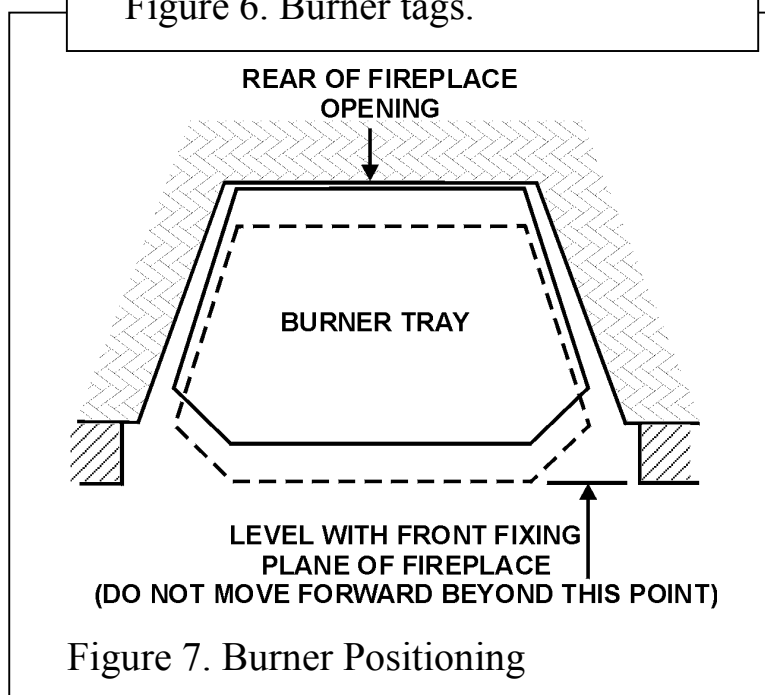

Figure 7. Burner Positioning
- Place the burner unit centrally within the fireplace opening. Position the burner to the rear of the opening, this may be moved forward providing the front of the burner tray does **not** protrude beyond the front plane of the fireplace opening (See figure 7).